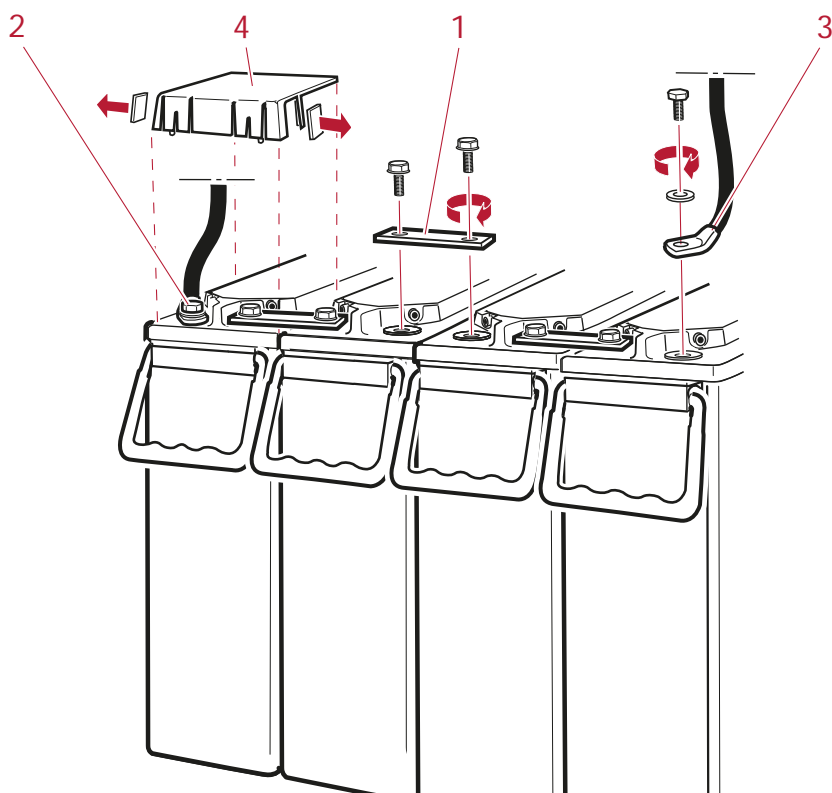

Figure 4-9 Battery Installation (Example only)
1. Attach interblock connections between the battery blocks (Figure 4-9, Detail 1).
2. Connect the negative “-” cable to the negative pole of the battery string (Figure 4-9, Detail 2). Tighten the connection to a torque of 5-6Nm.
3. Connect the positive “+” cable to the positive pole of the battery string (Figure 4-9, Detail 3). Tighten the screw to 5-6Nm.
4. Attach plastic pole protection caps to the battery poles (Figure 4-9, Detail 4).